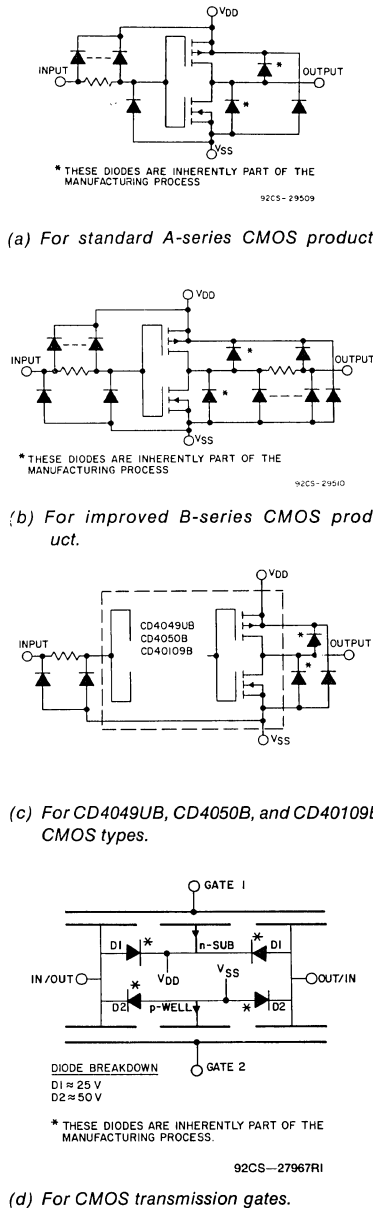

Fig. 3—Gate-oxide protection networks used in RCA CMOS integrated circuits.
A problem occasionally encountered in handling and testing low-power semiconductor devices, including MOS and small-geometry bipolar devices, has been damage to gate oxide and/or p-n junctions. Fig. 3 shows the gate-oxide protection circuits used to protect CMOS devices from static electricity damage. ICAN-6572 gives further information on protection circuits. Although these circuits are included in all CMOS devices, the handling precautions in ICAN-6572 and ICAN-6525 should be observed.
7. Remove the device from the test socket and insert it into a conductive carrier. CMOS devices under test must not be exposed to electrostatic discharge or forward biasing of the intrinsic protective diodes shown in Fig. 3.